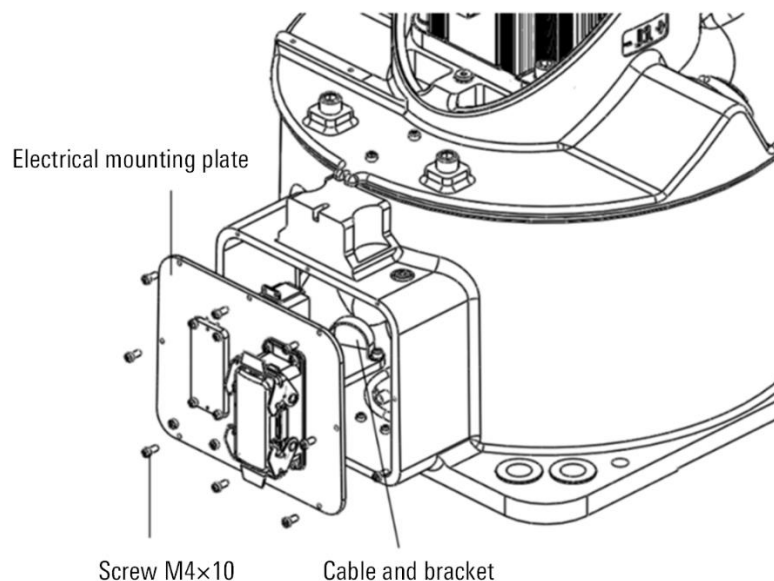

Figure 12-2 Cable inside the base
- Step1. Remove the electrical installation plate, as shown in Figure 12-2, and pull out the cables inside the base. The mounting plate is shown in Figure 12-2, and the cable inside the base is pulled out.